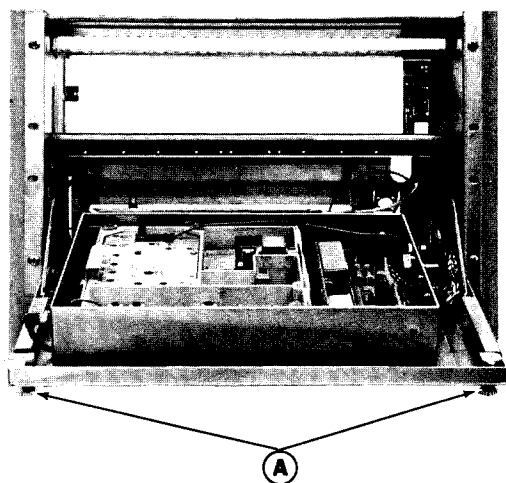

Figure 4 - Access to Exciter
- Turn the two latching knobs (A) counterclockwise to unlatch the Radio Panel Front Door. Refer to Figure 4.